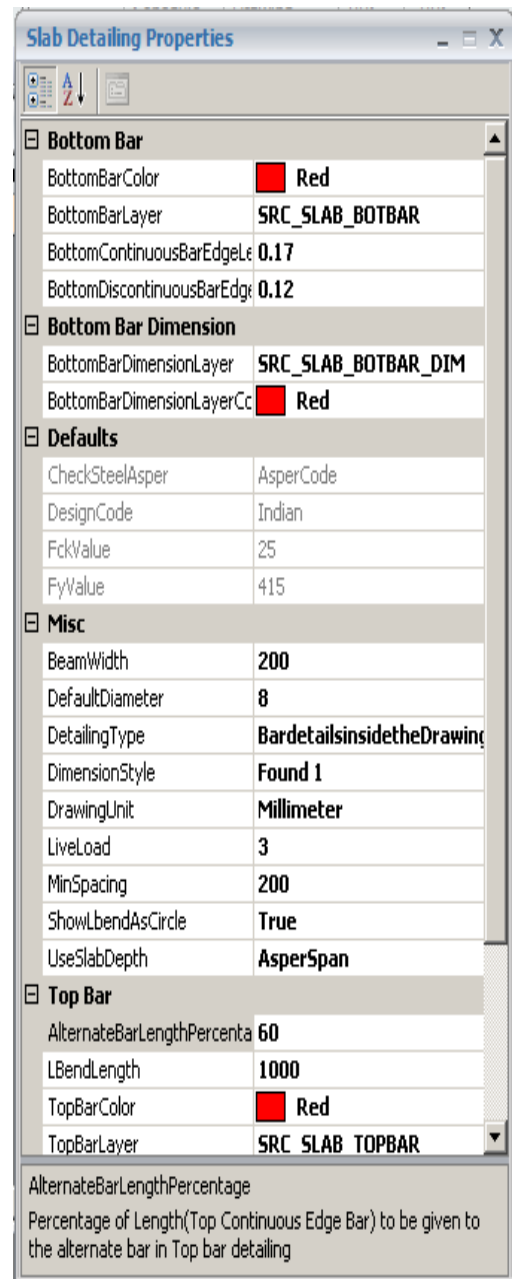

Fig 7.1.5
- Click on the **properties** from tool bar (Fig 7.1.5)